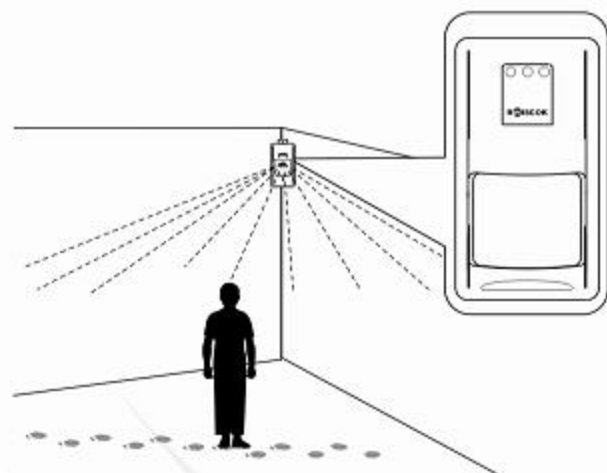

Fig.1 Installation
- Walk test to confirm the correct installation (Fig1)
- Choose the correct mounting location after careful consideration of the protected area. Do not let the unit face direct to the sunlight or near heat sources (Fig1, Fig2, Fig3)